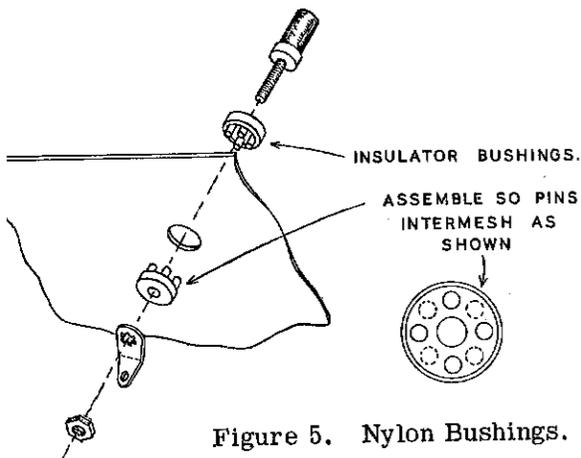

Figure 5. Nylon Bushings.
- () Mount the binding posts on the panel as shown in Figure 5, using a nylon bushing on each side of the panel. Use 6-32 hardware. Mount the red post in location T2 and the black post in location T1.